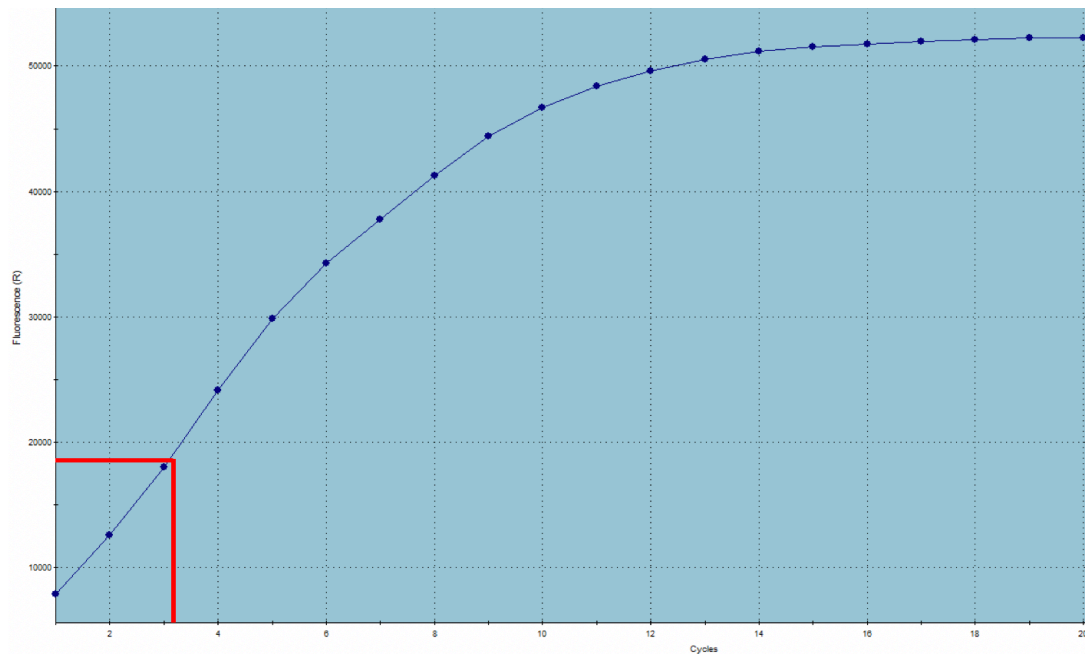

Figure 1: qPCR amplification plot showing $\frac{1}{4}$ of max fluorescence = around 4 additional PCR cycles
29. Manually assess the amplification profiles and determine the required number of additional cycles to amplify. The number of cycles should equal ¼ of max fluorescence (Fig. 1). This is to ensure that the amplification is stopped prior to saturation to avoid PCR bias.